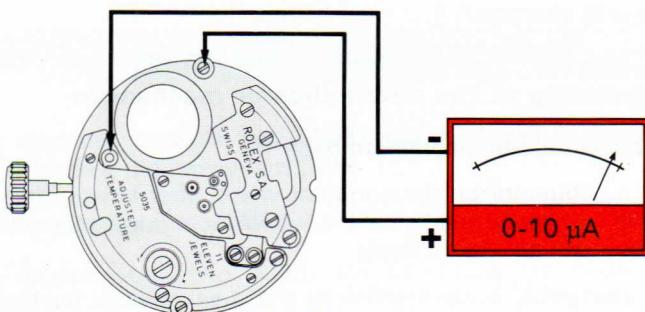

Fig. 17
9.18. Measure total consumption at a voltage of 1.55 V with the external supply stabilised (Fig. 17). It should be  $\leq$  to 9  $\mu\text{A}$  (equal or smaller).